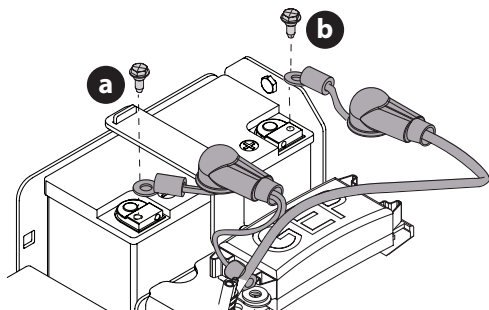

Fig. 38
2. Remove the vertical mount bolt securing the black negative battery lead (a) to the negative battery post (marked NEG (-)). Move the cable away from the negative battery post (Fig. 38).
3. Remove the vertical mount bolt securing the red positive battery lead (b) to the positive battery post (marked POS (+)). Move the cable away from the positive battery post (Fig. 38).